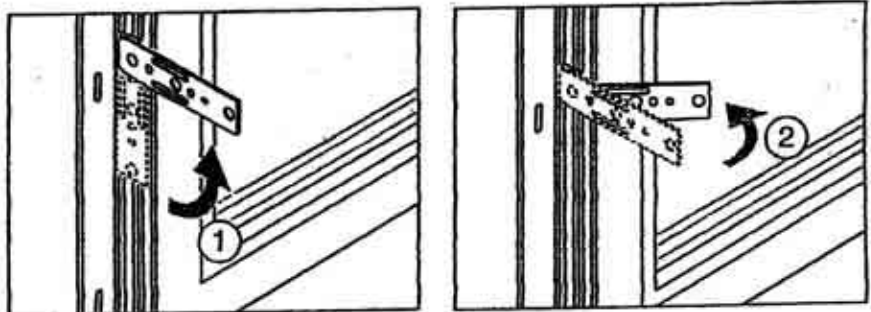

Figure 5-11. How to rotate and bend the strap anchors
- 1.2 If strap anchors are included, rotate them until they are at right angles to the frame. Bend the strap anchors inward about 45°. See fig. 5-11.